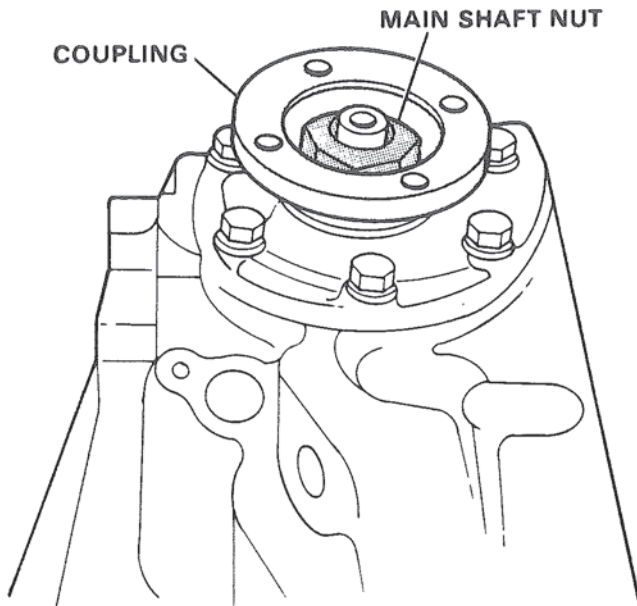

Figure 47. View of Completely Assembled Output Shaft.
12. Assemble main shaft nut in place on output shaft and tighten to prescribed torque of 100 - 200 ft. lbs. (13.79 - 23.59 kg/m). This should bring inner race of bearing solidly in contact with the shoulder on output shaft and eliminate any detectable end play in the coupling and output shaft combination. Figure 47.